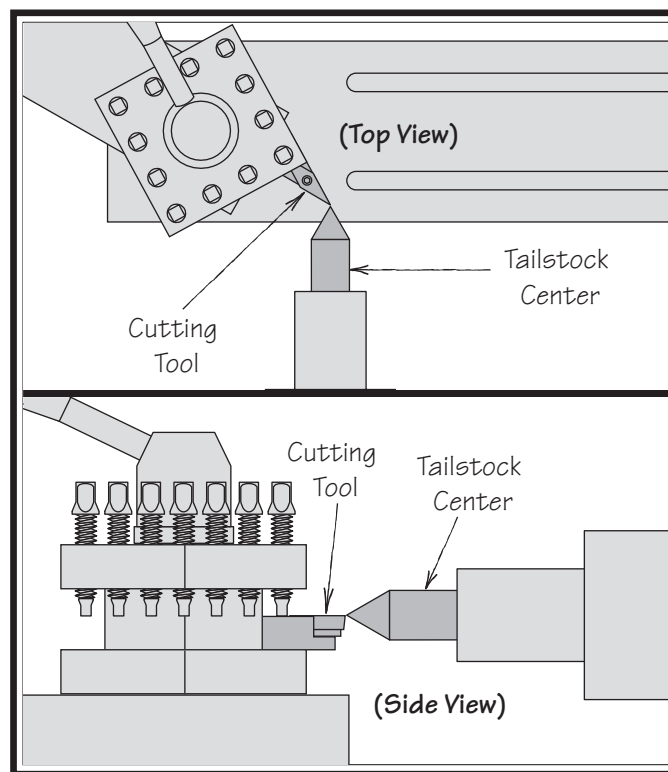

Figure 74. Cutting tool tip aligned with tailstock center.
4. Adjust the height of the cutting tool with a steel shim, so the tip just touches the end of the tailstock center, as shown in **Figure 74**.